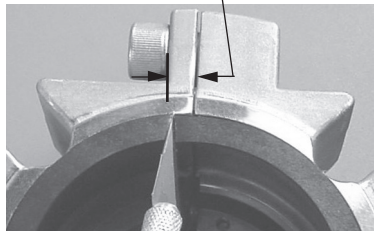

Figure 20
- 8.5 With the blade at a 20° to 30° angle from the vertical cut the gasket 3.0 to 3.8 mm (0.12 to 0.15 inch) from the one split joint. Repeat on the opposite side, 180° from the first cut. See Figure 20 and 21.